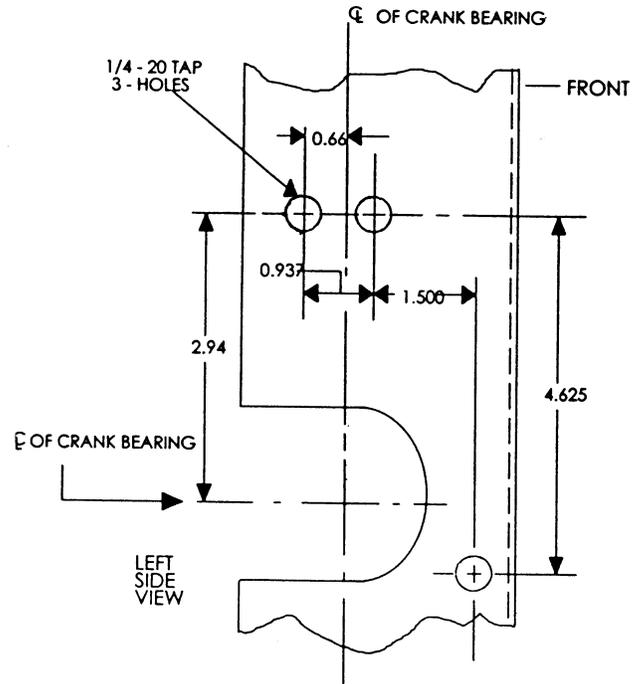

Figure 11. Mounting hole drill pattern for the trip unit mounting plate.
1. The holes for the new mounting plate may have to be added to the front channel. The drill pattern is shown in Figure 11, with a full-size template in the Appendix. Tap the holes for $\frac{1}{4}$ -20 screws.